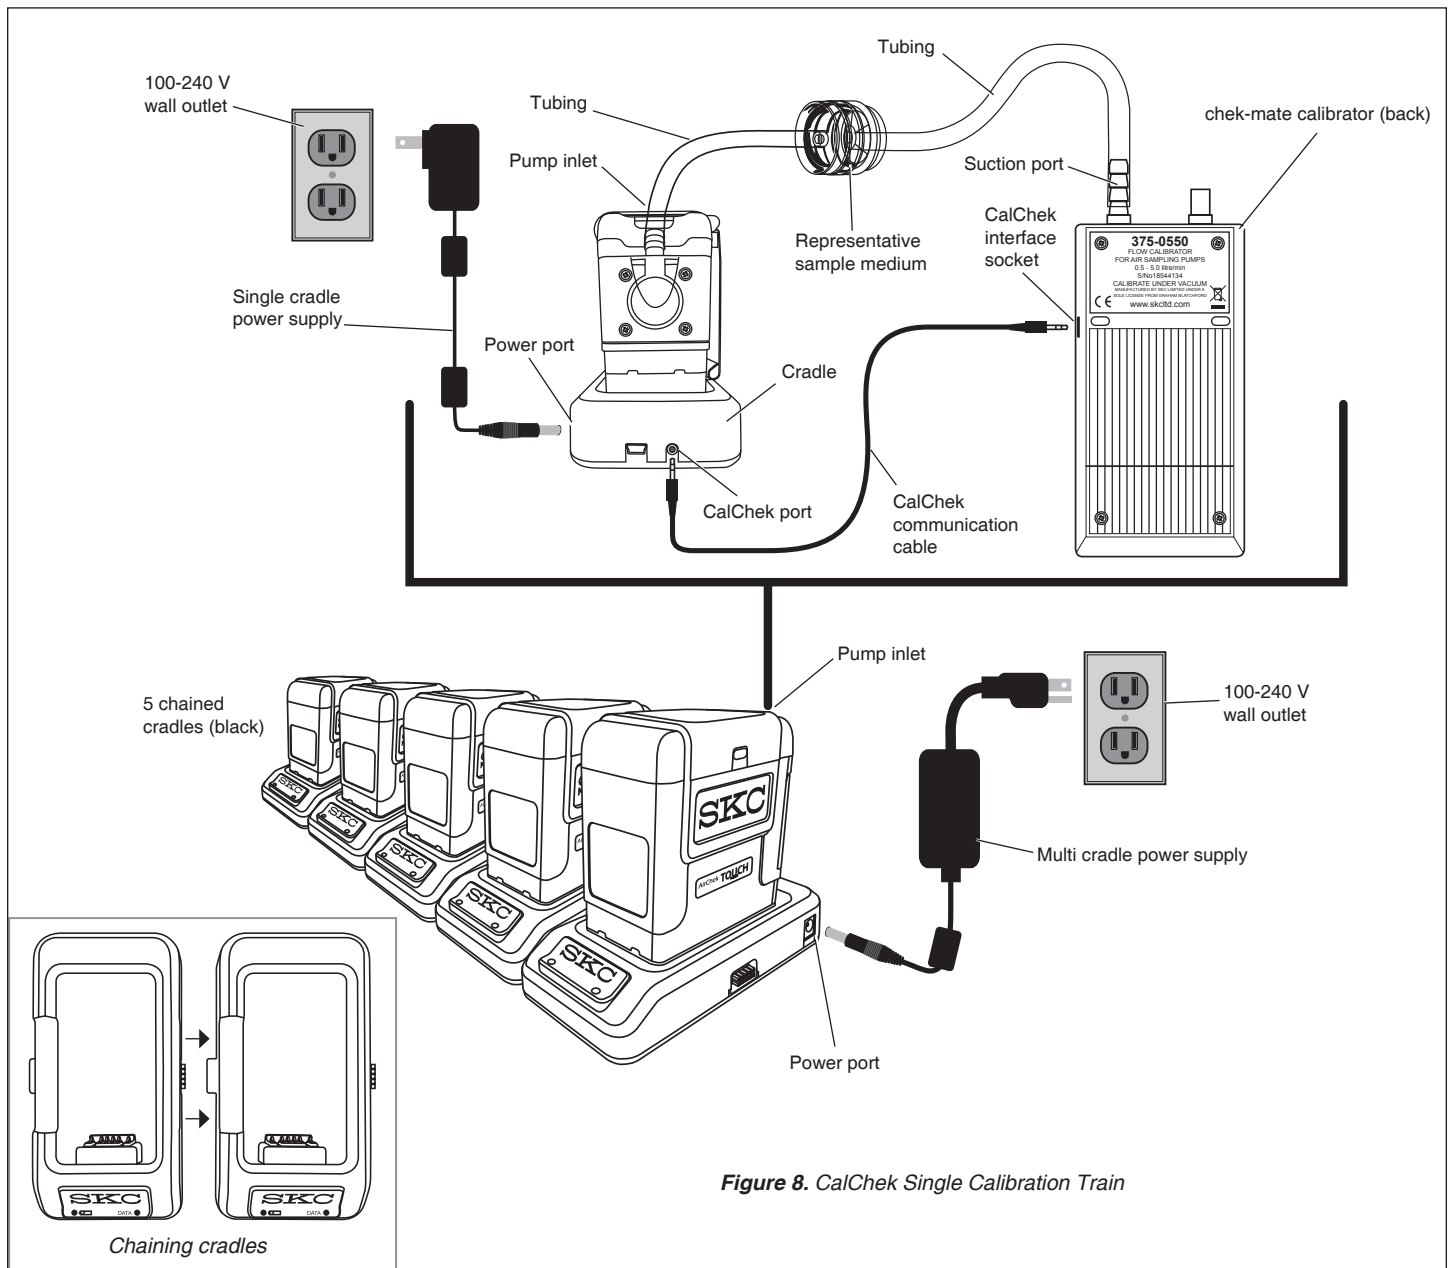

Figure 8. CalChek Single Calibration Train
2. Set up a calibration train (*see Figure 8*).
4. Ensure calibration train is in place (see Figure 8). Touch checkmark to accept CalChek selection.